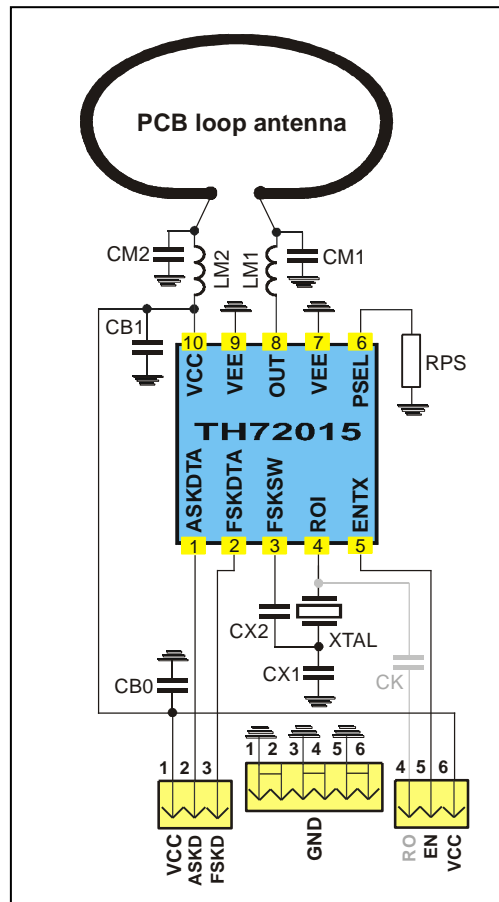

Fig. 6: Circuit diagram with loop antenna matching network
| 3.1. Board Component Values to Fig. 6..... | 8 |
3.1. Board Component Values to Fig. 6